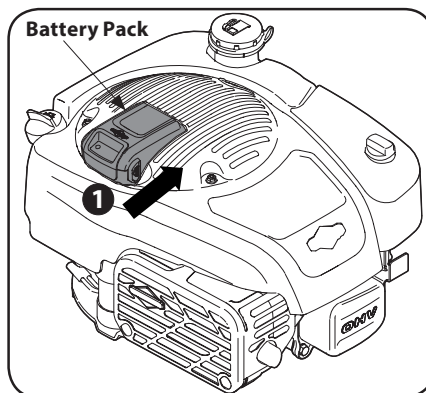

Figure 3-3
1. Check the battery tray on top of the engine for debris and if dirty clean with a brush or cloth. Push the battery pack into the battery tray until it clicks on top of engine. See Figure 3-3.